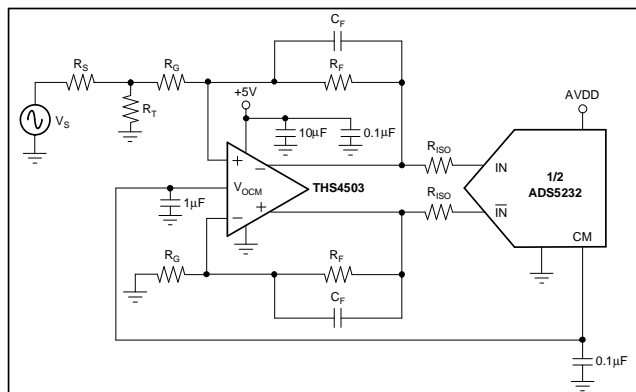

Figure 20. Using the THS4503 with the ADS5232
Applications that have a requirement for DC-coupling a differential amplifier, such as the THS4503, can be used to drive the ADS5232; this design is shown in Figure 20. The THS4503 amplifier easily allows a single-ended to differential conversion, which reduces component cost.
In addition, the V_{OCM} pin on the THS4503 can be directly tied to the common-mode pin (CM) of the ADS5232 to set up the necessary bias voltage for the converter inputs. In the circuit example shown in Figure 20, the THS4503 is configured for unity gain. If required, a higher gain can easily be achieved as well by adding small capacitors (such as 10pF) in parallel with the feedback resistors to create a low-pass filter. Since the THS4503 is driving a capacitive load, small series resistors in the output ensure stable operation. Further details of this and the overall operation of the THS4503 may be found in its product data sheet (available for download at www.ti.com). In general, differential amplifiers provide a high-performance driver solution for baseband applications, and other differential amplifier models may be selected depending on the system requirements.